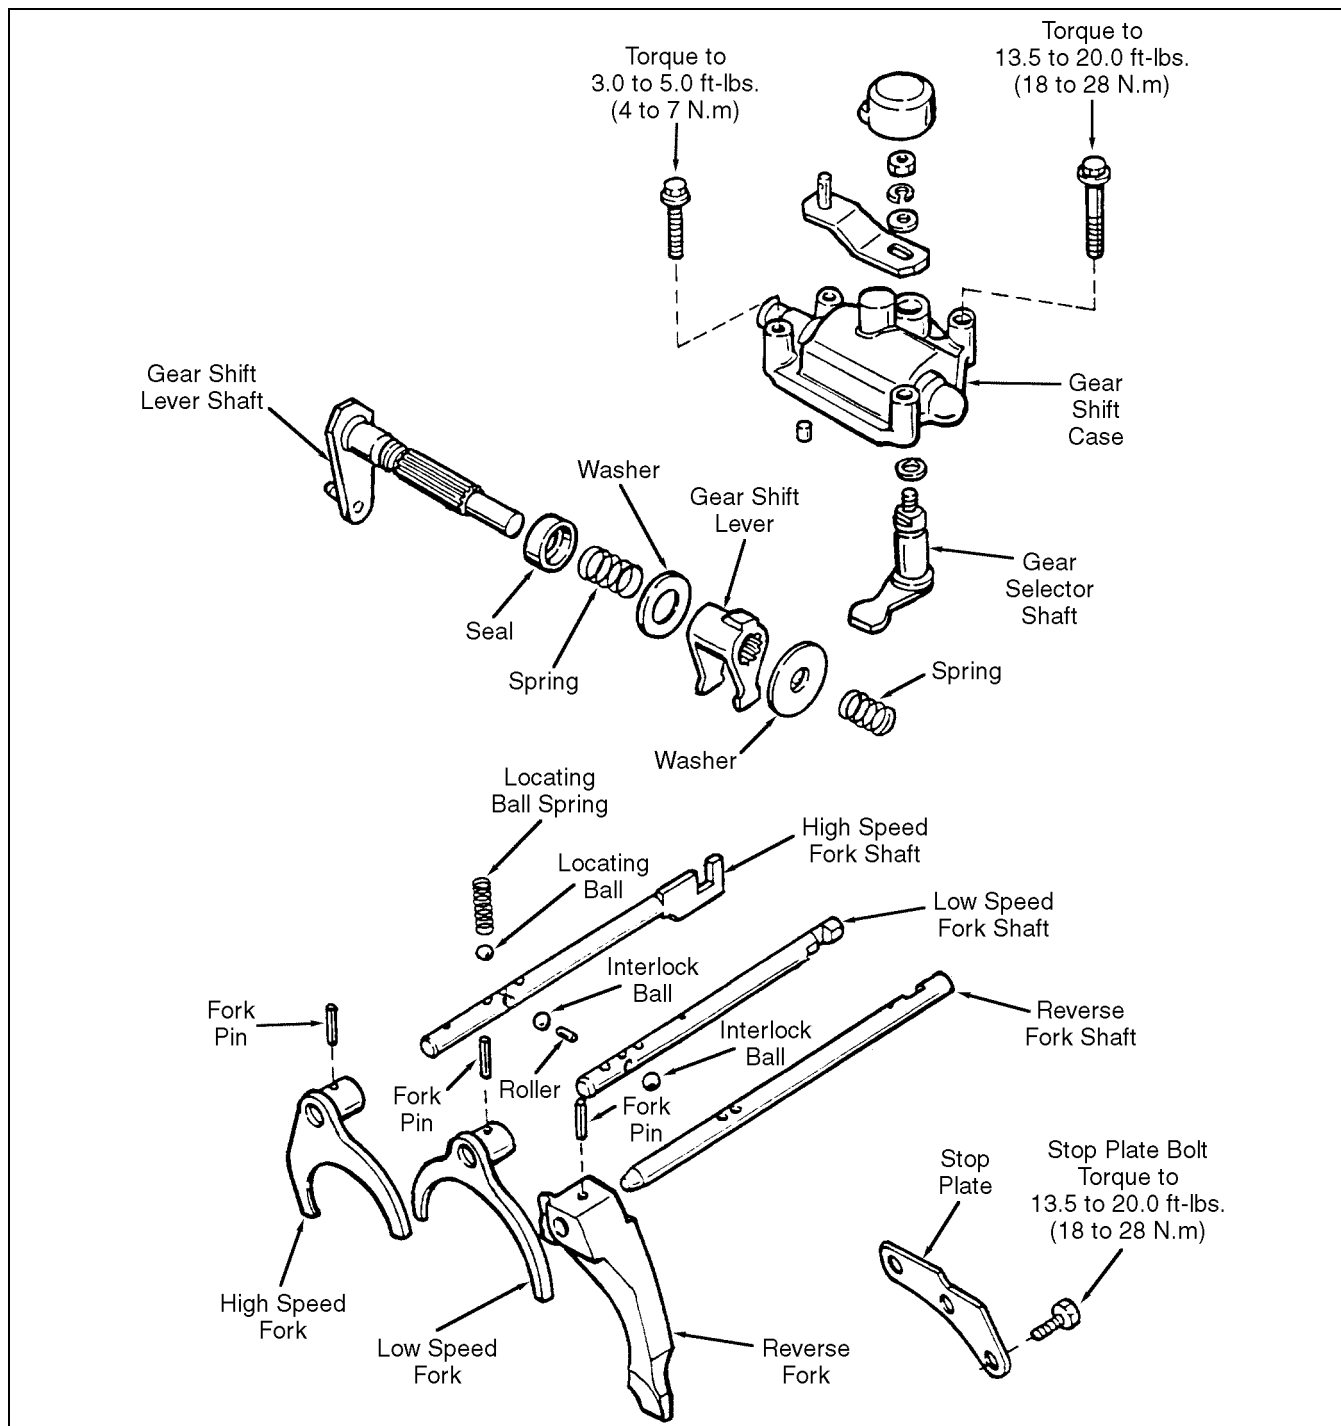

Figure 4G-20. Shifter Shaft and Forks
1. See Figure 4G-20 for arrangement of shifter shafts, forks and gear shift case.